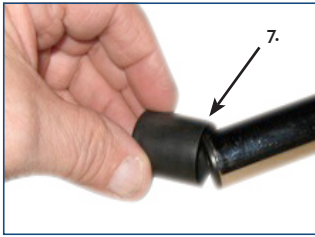

figure 7
7. Remove the protective cap from the lower part of the upper post. (figure 7)